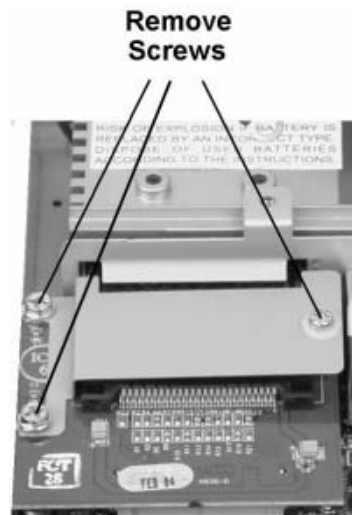

Figure 2-12: Removing the Compact Flash Daughter Card
2. Locate the CF Daughter card and remove the screws shown in Figure 2-12.